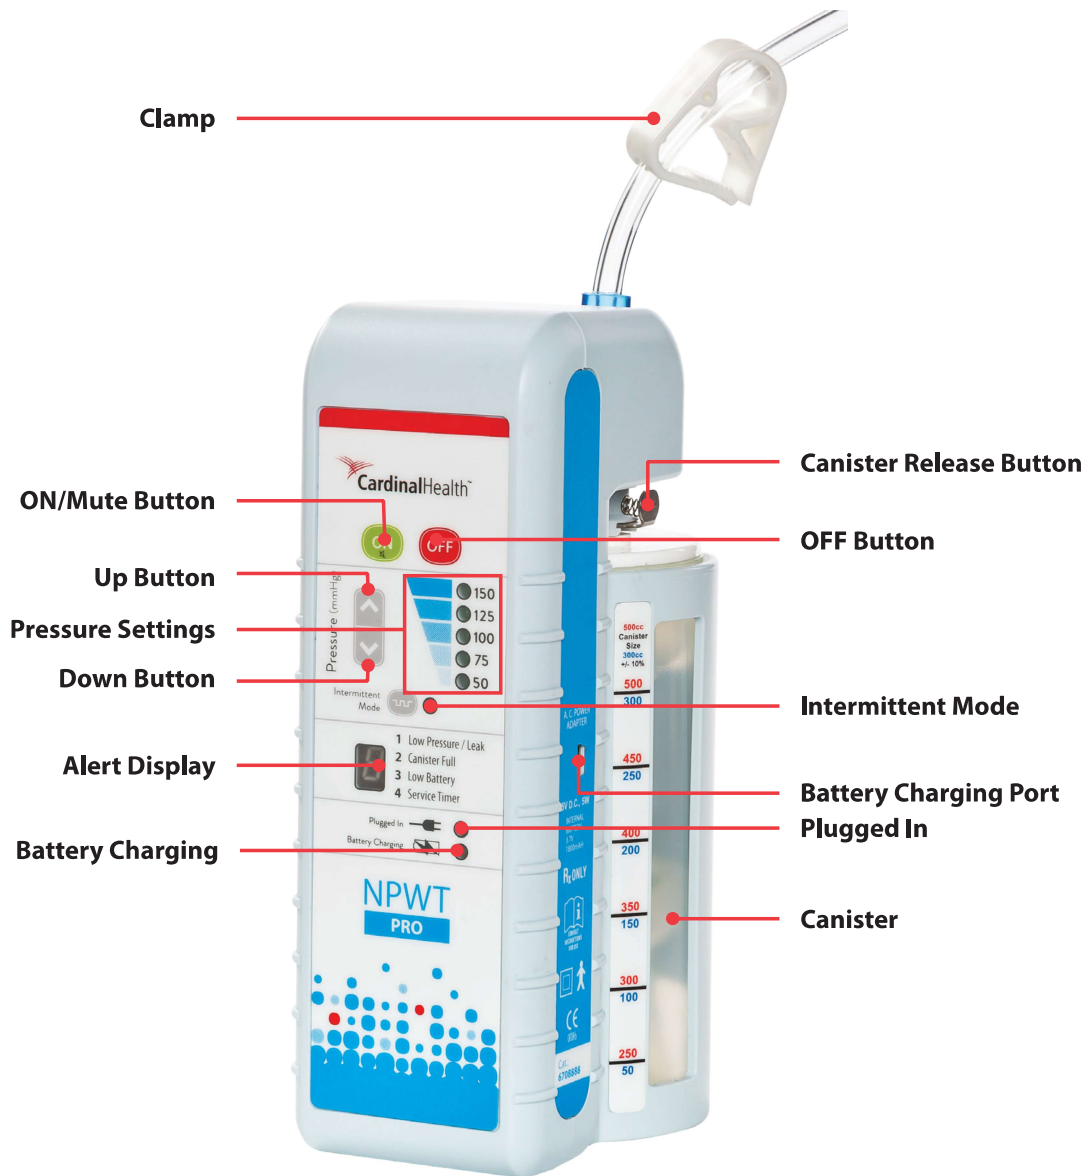

Figure 1
You may not need to use many of the buttons on the PRO/PRO to GO, but it is important that you are familiar with what they are and their location (Figure 1).
1. Clamp the tubing closed (**Figure 1**).